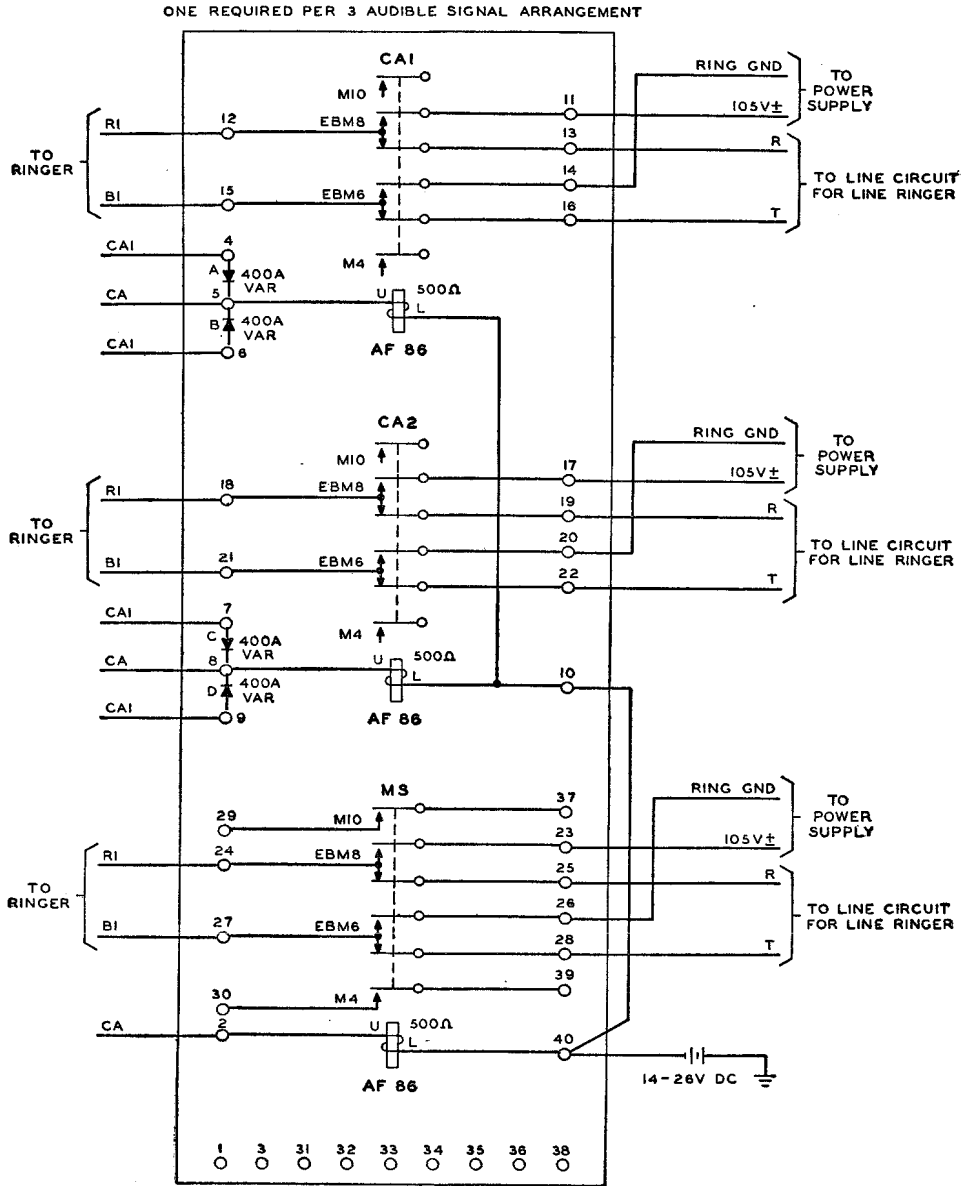

Fig. 5 — 227A KTU — Multisignal Control Circuit for Ringers
2.04 A power failure feature is provided in Fig. 5. Common or line signals with capacitors are connected to the tip and ring of central office, PBX, or private line while relays are unoperated.